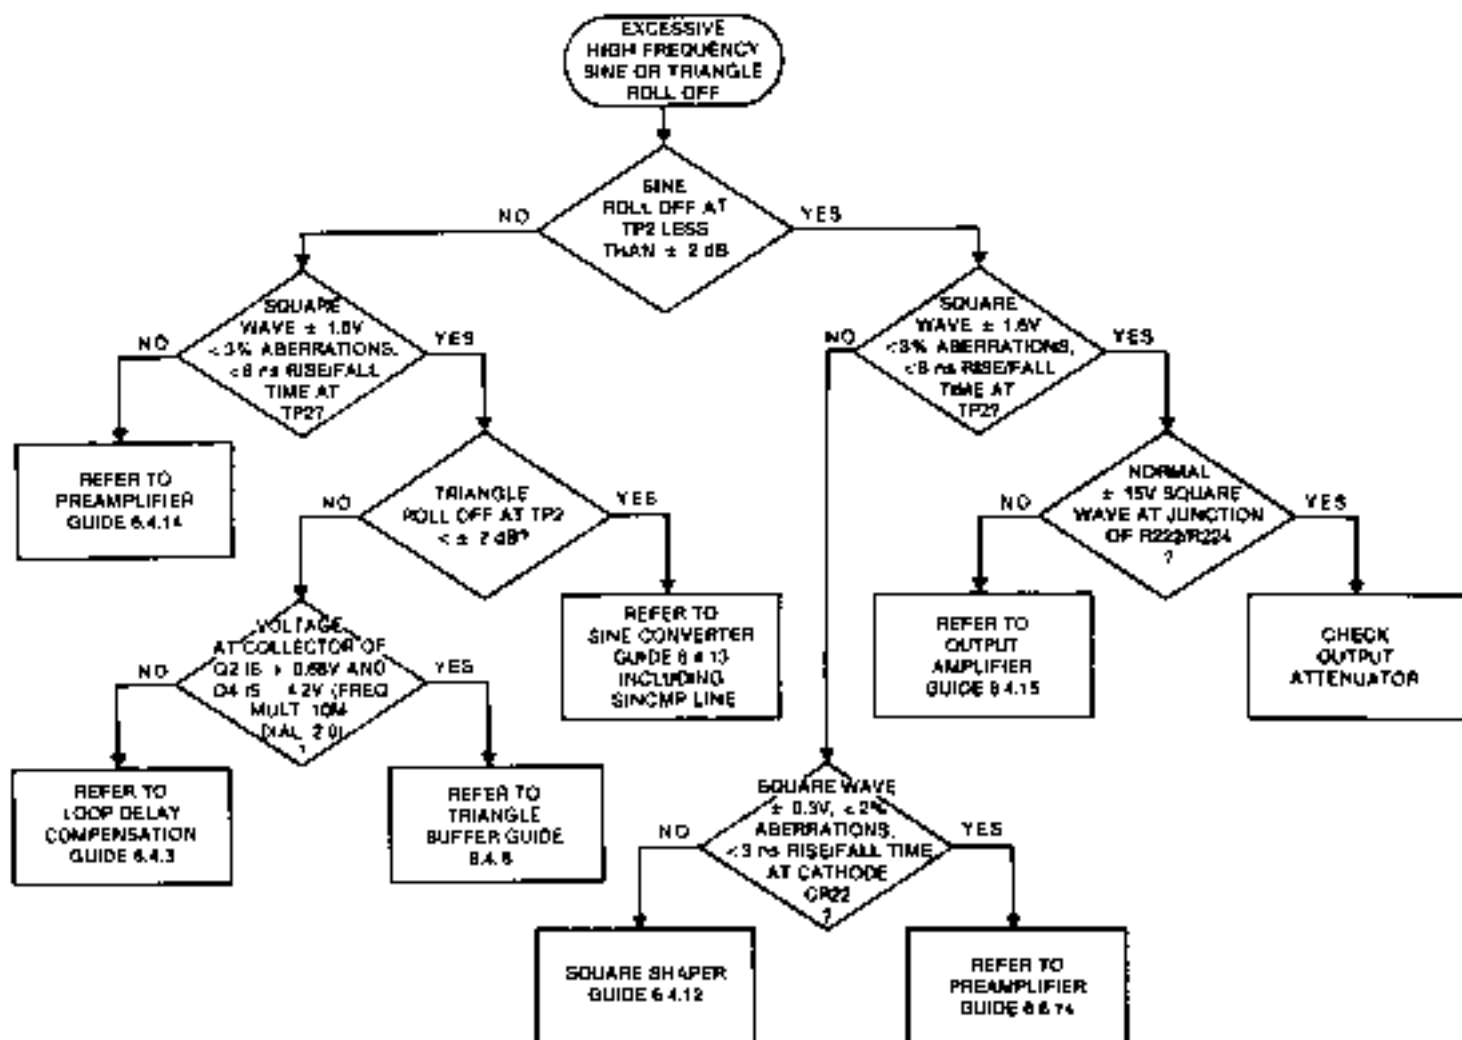

Figure 6-5. High Frequency Waveform Troubleshooting
2. If none of the above conditions apply, refer to figure 6-5. Use a X10 probe with a very short ground lead and a spectrum analyzer, RF voltmeter or a 200 MHz bandwidth scope when performing sine or triangle roll-off tests.
2. If none of the above conditions apply, refer to figure 6-5.